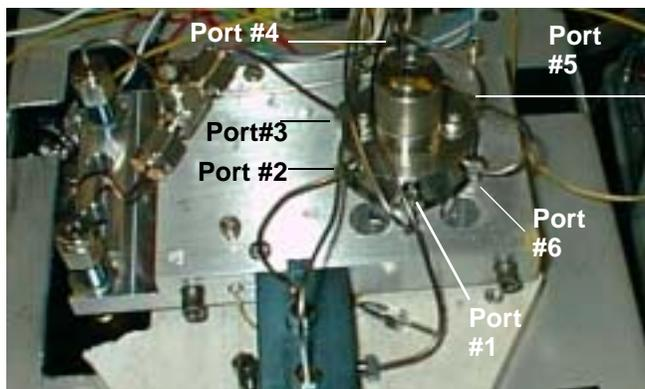

Figure 2-21: 6-Port Valve: Velocity XPT
1. Remove the 1/16" SilcoSteel by loosening the Valco nut in Port-#4 of the 6-Port Valve on the Velocity XPT. (Figure 2-21)